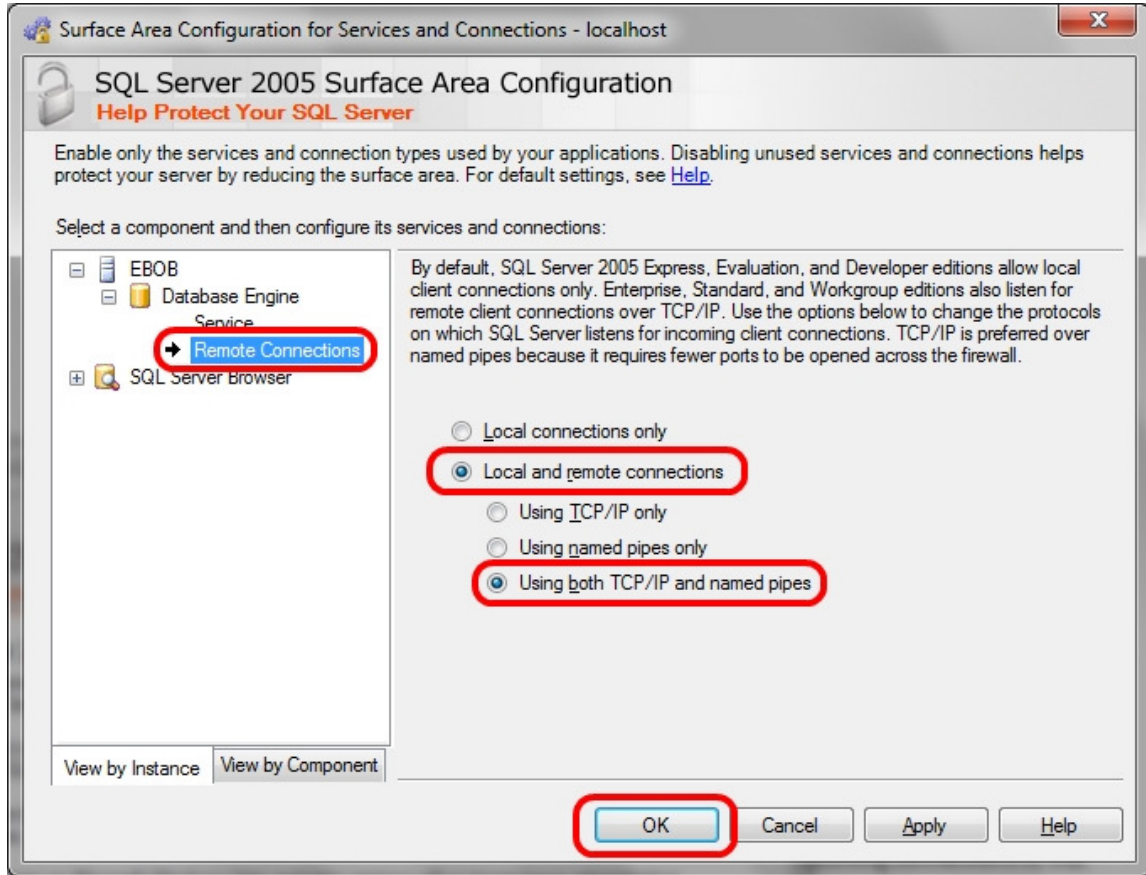

Figure 9
4. In the left pane, click on Remote Connections under the EBOB server instance. Refer to Figure 9.